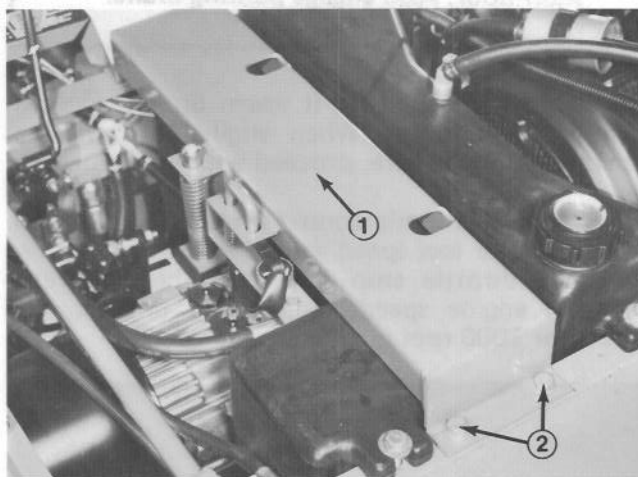

Figure 67
4. Unplug seat switch. Remove capscrews, lockwashers and flatwashers securing seat support to top of frame (Fig. 67). Set seat support aside.
3. Install seat support with capscrews, lockwashers and flatwashers. Connect seat switch (Fig. 67).